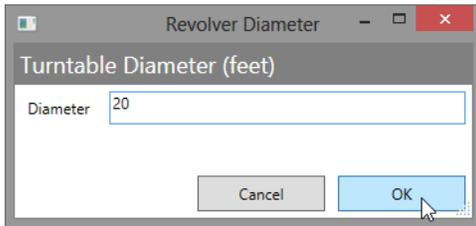

Figure 166
4. Because the Position Scale of a Revolver is dependent on the diameter of your turntable deck, Spikemark prompts you for the diameter of your turntable (Figure 166).
5. Enter in the diameter of your turntable deck in feet (Figure 166).